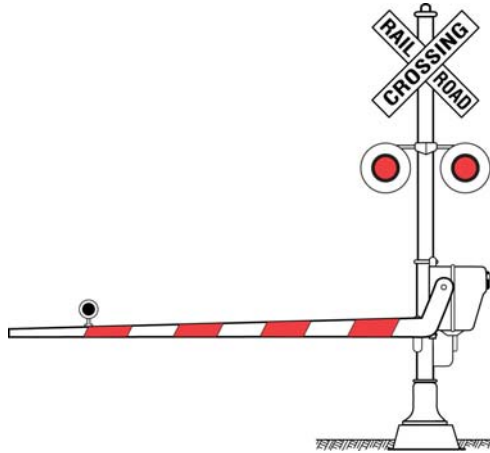

Figure 10-2. Railroad-Crossing Gate.
Figure 10-2 shows a typical railroad-crossing gate. *It is illegal to drive around a lowered railroad-crossing gate or have them lifted, unless directed to do so by a law enforcement officer or an authorized railroad employee.* Yet nearly 50 percent of vehicle/train collisions occur at crossings with active warning devices (gates, lights, and bells). Remember that in a confrontation between a train and a vehicle, the train always wins.
- Gates/lights—Some railroad crossings have automatic gates that close to block the roadway when a train approaches (see Figure 10-2). Other crossings have lights, either in combination with gates or alone. Lights might appear at the sides of the roadway or above the intersection. Some crossings have advance warning lights prior to reaching the intersection.